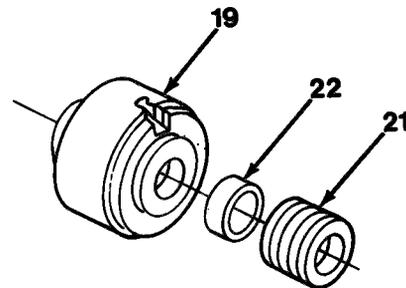

Figure 13-5
8. Install seat (22) and retainer (21) on piston (19, Figure 13-5).